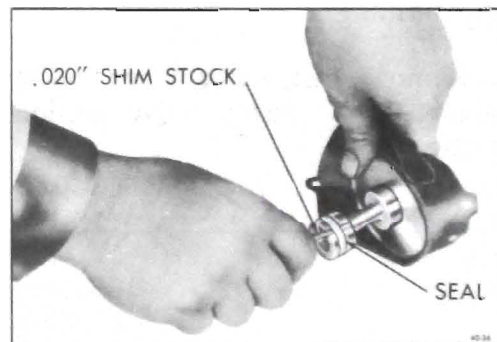

Figure 40-41 - Installing Piston Seal
4. Install new seals using a piece of .020" shim stock. See Figure 40-41.